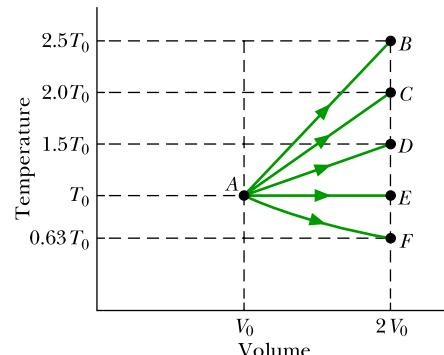

Figure 20.2 Question 4.
- 4 An ideal monatomic gas at initial temperature T_0 (in kelvins) expands from initial volume V_0 to volume $2V_0$ by each of the five processes indicated in the T - V diagram of Fig. 20.2. In which process is the expansion (a) isothermal, (b) isobaric (constant pressure), and (c) adiabatic? Explain your answers. (d) In which processes does the entropy of the gas decrease?